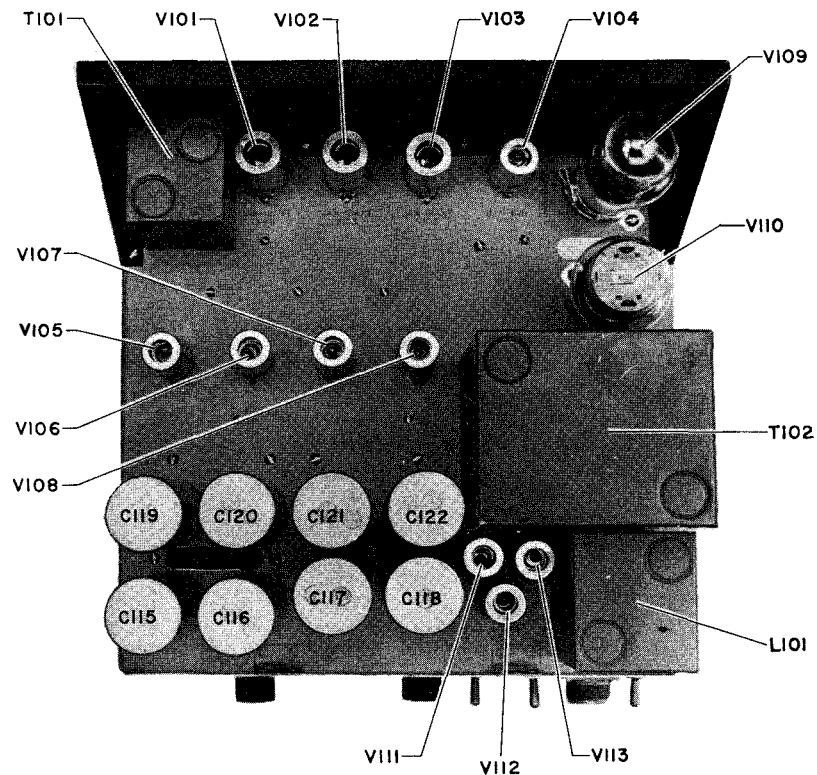

Figure 5-2. Location of Electron Tubes
b) Monthly Inspection. Once a month, at the time the weekly inspection is made, all tubes should be checked on a good tube checker. To avoid possibly changing the time constants in the synchronizing section, each tube should be tested and replaced before removing the next tube of the same type from its socket. Figure 5-2 shows the location of all electron tubes. Before replacing the tubes in the equipment, clean the pins of each tube with very fine emery cloth, being careful not to bend the pins. A good, noncorrosive contact cleaner may be applied to each pin before replacing the tubes.